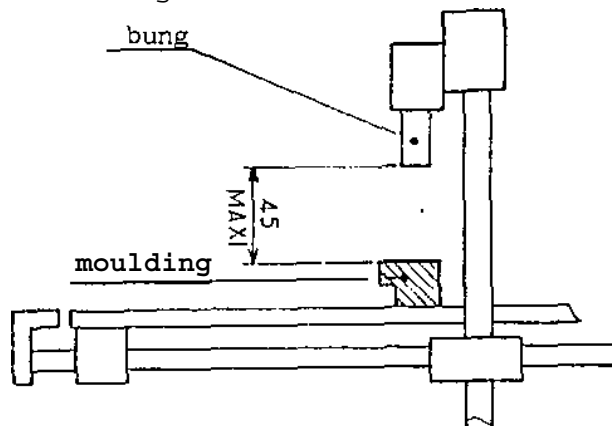

Fig 4
Check that the height between the top of the moulding and the bottom of the bung is less than 45mm (1 3/4"). (see Fig. 4)
The "incident" indicator is illuminated the machine does not work	The maximum distance between the bung and the moulding is incorrect (45mm Max). The stopping microswitch is out of adjustment (page 6) check the position of the bung (fig. 4) check that the air pressure is a minimum 5 bars. If the speed of the descent of the bung is too slow make the necessary adjustment A foreign body is preventing the hammer rising completely. Check the area around the hammer support. Blockage: remove the head (H), remove the cartridge, remove the damaged wedge, check the state of the hammer. The V shape must match completely the hammer support against which it slides. The top edge which pushes the wedge must be undamaged and with no burr. The hammer cannot be repaired, it must be changed. Carry out the cleaning procedures. Normal wedges are being used in a hard wood.